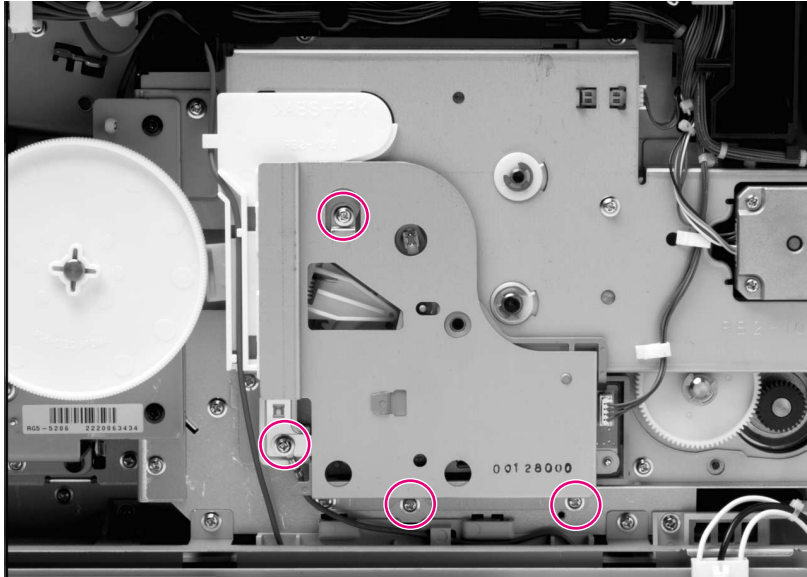

Figure 6-39 Toner level sensor assembly removal and replacement
- 4 Remove the toner level sensing assembly from the HP Color LaserJet 4550 (see Figure 6-39).